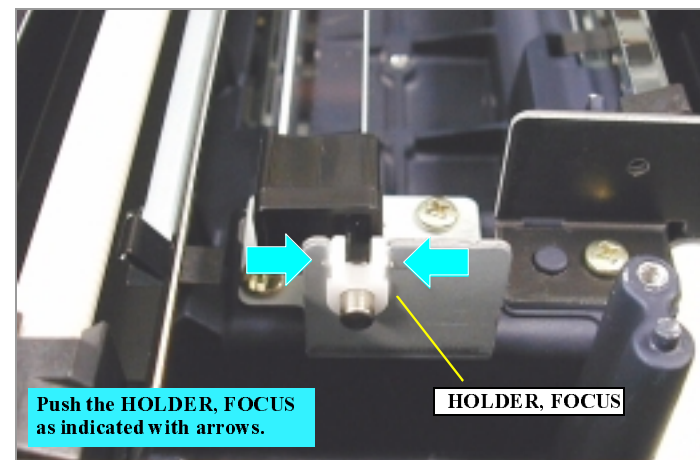

Figure 4-4. “GLASS ASSEMBLY, FOCUS” Removal (2)
4. Using pliers, lift up “GLASS ASSEMBLY, FOCUS” by pushing “HOLDER, FOCUS” attached to the both ends of “GLASS ASSEMBLY, FOCUS” inward. (See Figure 4-4.)